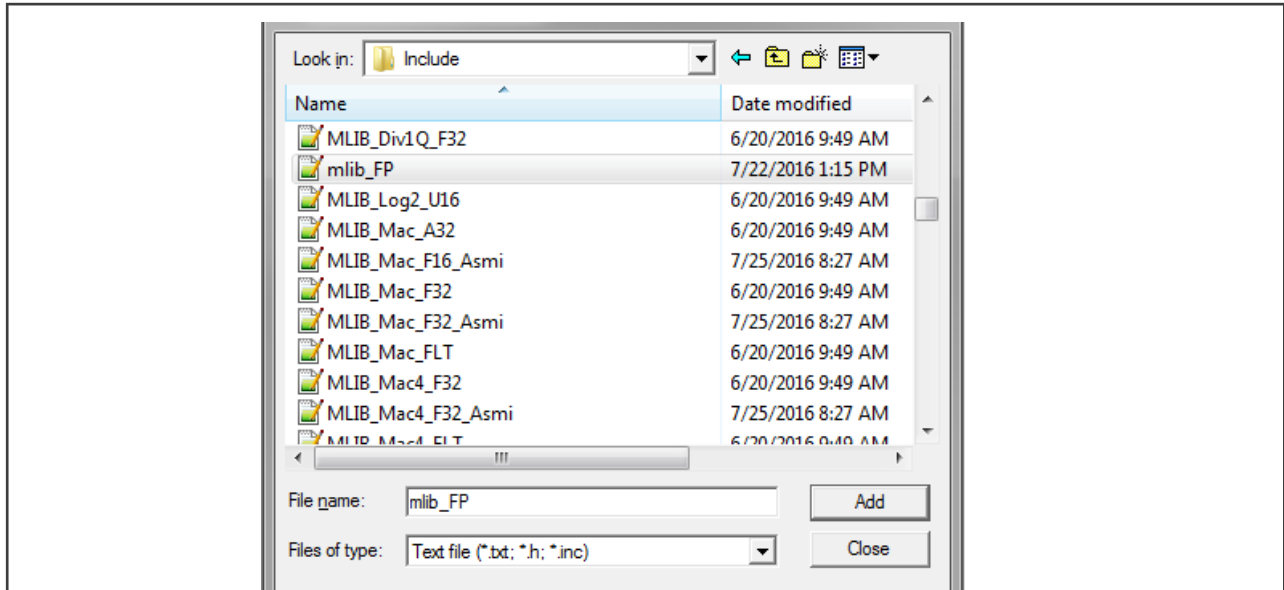

Figure 14. Adding .h files dialog
4. Navigate into the library installation folder C:\NXP\RTCESL\CM7F\_RTCESL\_4.7\_KEIL\MLIB\Include, and select the *mlib\_FP.h* file. If the file does not appear, set the Files of type filter to Text file. Click Add. See Figure 14.